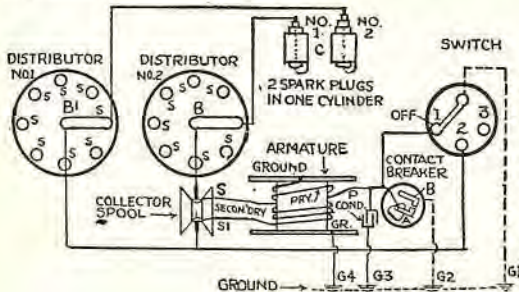

Fig. 6A
When the switch is in position 1 (Fig. 6A), the primary winding of the magneto is short-circuited and the magneto is "off." Note that the circuit is from (P) to (1), to ground (G1), to ground (G4), to the other end of the primary winding at "ground."